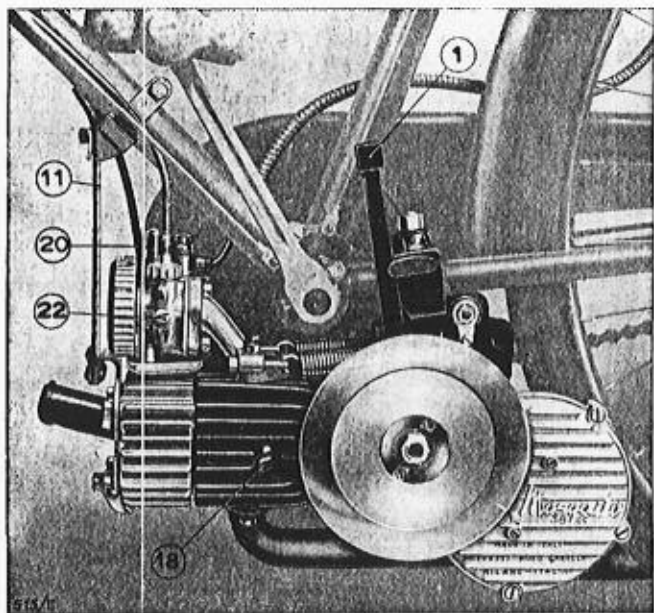
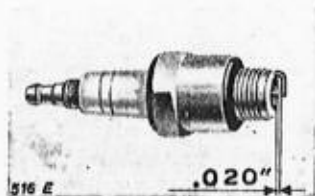
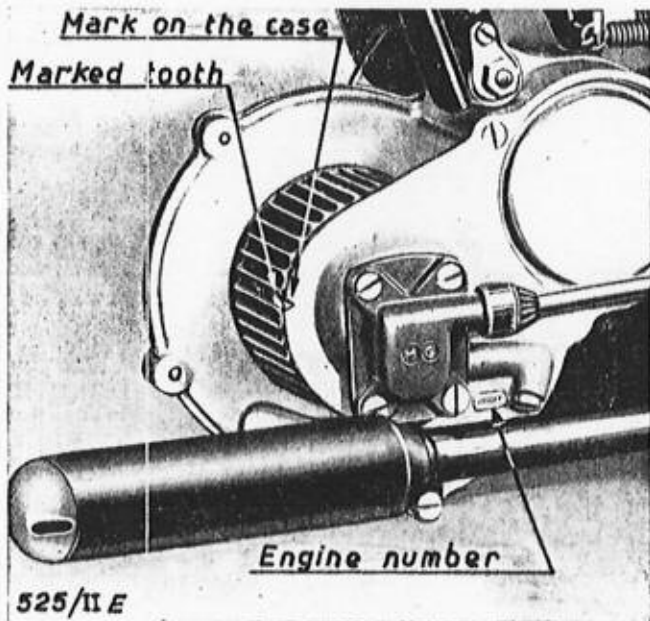

Fig. 5
Fig. 8
Fig 10
- 2) When the engine is switched on, the cylinder should be in a horizontal position or slightly inclined upwards and the perforated strip marked 11 should be straight and at right angles to the cylinder (Fig. 5).
B) Move the lever marked 1. to the engaged position (fig. 5).
- C) If the engine is cold press up and down two or three times, the carburettor pump marked 20 (fig. 5). There is
STARTING PUMP 20 (fig. 5).
By pressing down this pump, a small amount of fuel is injected in the jet chamber under the screw marked 22 (fig. 5). By the use of this pump one can also detect two irregularities: if, when pressing the pump one notices that there is less resistance than the average, this means that the fuel is not
Dismantle also the piston rings from the piston (keeping them one after other in order to replace them in their respective previous position) and scrape the carbon deposits off their inner walls and their grooves in the piston. The plugs 18 (fig. 5) are pressed in and turned in a determined way. **They should not be removed or turned around, with a presumed view to tighten them thoroughly.** Dismantle and clean the tank and filter of the carburetor. Check, clean and re-set the points of the breaker removing the lid of the box on the opposite side of the fly-wheel. (Gap between points should be .016" - .4 mm See fig. 8).
- E) Every 6000 Km (3500 miles),** dismantle fly-wheel for checking. Should one find, by touching with one's fingers, that there is some sand or sediments in the grease, dismantle the gear-box cover also, take off the grease completely; put **very little** (1/2 oz.) new grease **on the teeth of the gears only.** (Use only "Mobilgrease N. 5" of the "Vacuum Oil Company"). When re-assembling take care of the timing. Secure correct timing by rotating the roller until the tooth which is marked is in line with corresponding mark on the case (side pick-up holder, see Fig. 10), or is slightly lower (not more than one groove of the roller). It should never be higher than the scratch on the case. The roller being in this position, fix the fly-wheel so as to make the arrow engraved on it coincide with the one engraved on the gears case cover (Fig. 5). In this position the points of the breaker should just begin to open.
- 3) The jet of the carburettor is obstructed. **Undo the screw marked 22 fig. 5, and take out the jet. Suck the conical end of the jet to extract any dirt that may be in it, or push through the jet hole the specially supplied steel wire only and clean the jet with it. Look in the jet against the light and make sure that the hole is clear. Press the pump marked 20 once or twice before re-assembling the jet. The fuel squirting from the jet chamber would drive out any sediment which might otherwise cause the same trouble at a later date.**
Remove the plug: clean the points and scrape the insulating part of the centre electrode and its housing. Better still, get the plug sand-blasted at your local garage station. Check the gap between the points (.020" - .5 mm, fig. 8). If necessary, use some fine emery cloth to remove from the electrodes points any oxidation. **When fitting the plug again, take care that it is put on at the correct angle. The plug should be screwed on by hand only, the spanner only serving the purpose of tightening the packing.** Before re-assembling the plug, test it as follows: Connect the plug with the cable from the magnet, and hold it against the cylinder block, then raise the back wheel from the ground and turn the engine by half a turn by means of the pedal. There should be a spark between plug points. If on the other hand the spark is in-